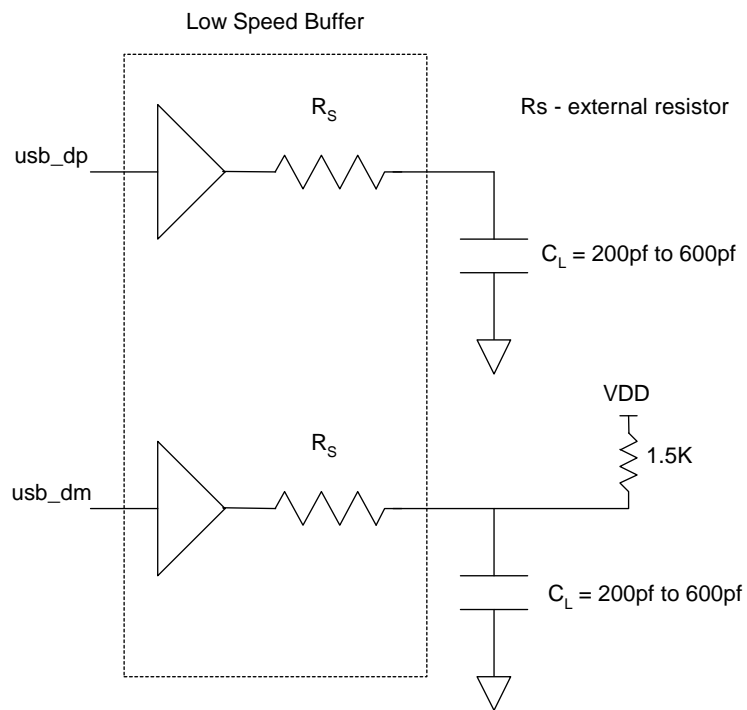

Figure 142: USB internal PHY low speed load
- 4 Load shown in Figure 142, "USB internal PHY low speed load," on page 796.